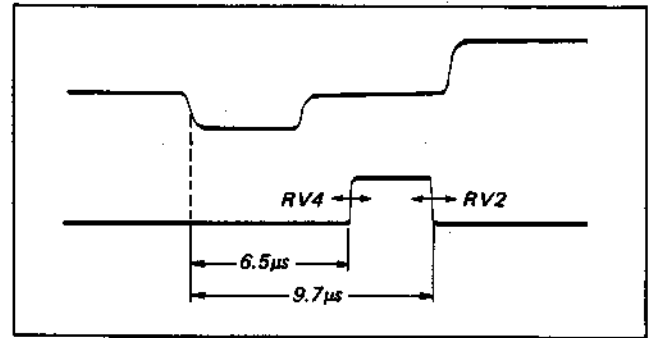

Fig. 4-4-1. Burst gate pulse
- (1) Supply the VTR with the colour bar signal and set up the E-E mode.
- (2) Connect the oscilloscope probe (A) to the point between R28 and R29, and probe (B) to the VIDEO OUT.
- (3) Adjust RV2 and RV4 so that the burst gate pulse is as shown in Fig. 4-4-1.